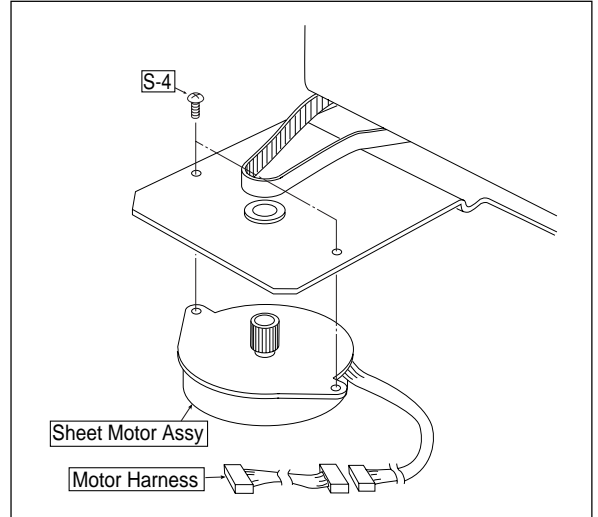

Fig. 16
9) Remove the Sheet Motor Assy. (See Fig. 16.)
1. Remove the "S-4" screw shown in Fig. 16.